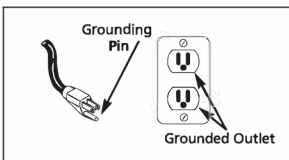

Figure 1 - Grounding Method
- This product is for use on a nominal 220v volt circuit and has a grounding plug that looks like the plug illustrated in Fig. 1. Make sure the product is connected to an outlet having the same configuration as the plug. This product must be grounded. In the event of an electrical short circuit, grounding reduces risk of electrical shock by providing an escape wire for electric current. This product is equipped with a cord having a grounding wire with an appropriate grounding plug. Plug must be plugged into an outlet that is properly installed and grounded in accordance with all local codes and ordinances.